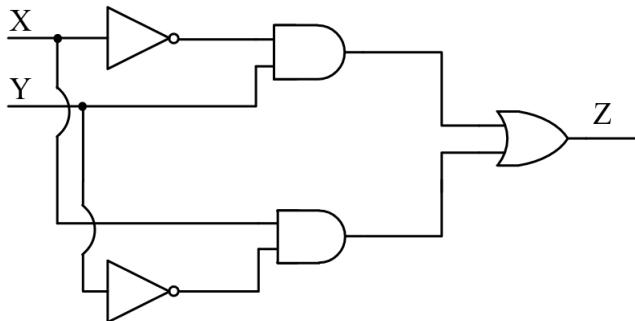

Fig. 3.13
24. Find the logic function implemented by the circuit given below in Fig. 3.13 (GATE EE 2019)